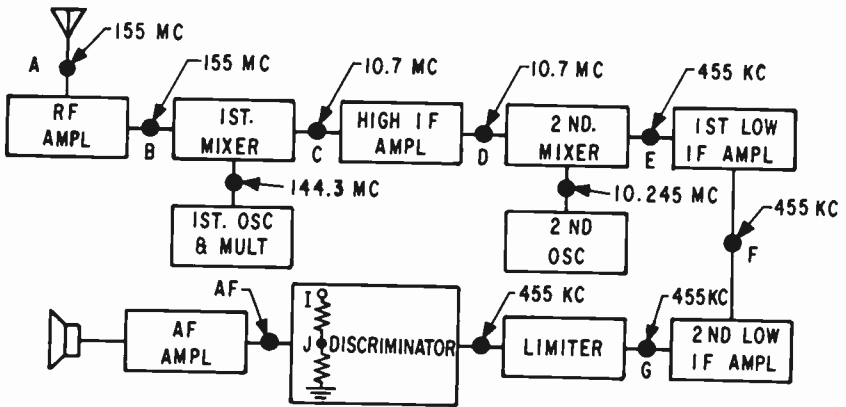

FIG. 16-24. BLOCK DIAGRAM OF AN FM DOUBLE CONVERSION RECEIVER.
**ALIGNMENT.** Fig. 16-24 illustrates a block diagram of a double-conversion FM superheterodyne receiver. Double-conversion can be used in AM as well as FM. Two mixing operations are performed. The chief advantage of double conversion is that the first IF is made high enough to eliminate images and the second IF is made low enough to give good selectivity and sensitivity.
Except for the discriminator, the alignment of an FM receiver is similar to that of an AM receiver. We will now describe a step-by-step procedure for the alignment of the discriminator and limiter sections of the receiver shown in Fig. 16-24.
The VTVM remains across the limiter's grid resistor and the rest of the alignment is similar to the alignment of the AM superheterodyne described in lesson 15. The signal generator is moved back one stage at a time, to point A, as each transformer or adjustment is peaked. The signal generator frequencies are indicated in Fig. 16-24.